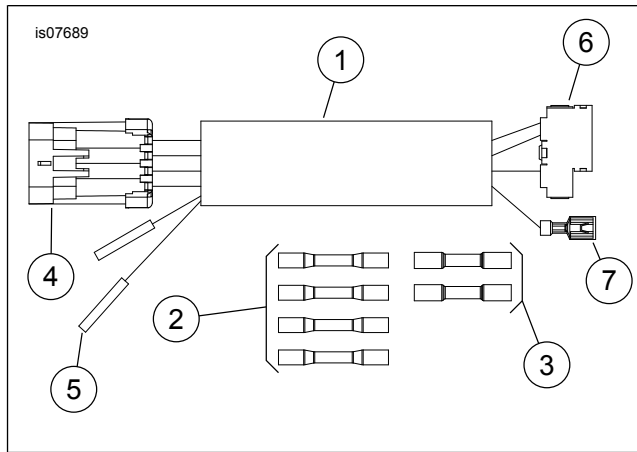

Figure 2. Service Parts: LED Headlamp Harness Adapter Kit
See Figure 2 and Table 1.
2. See Figure 2. Cut off connector (4) from the adapter harness.